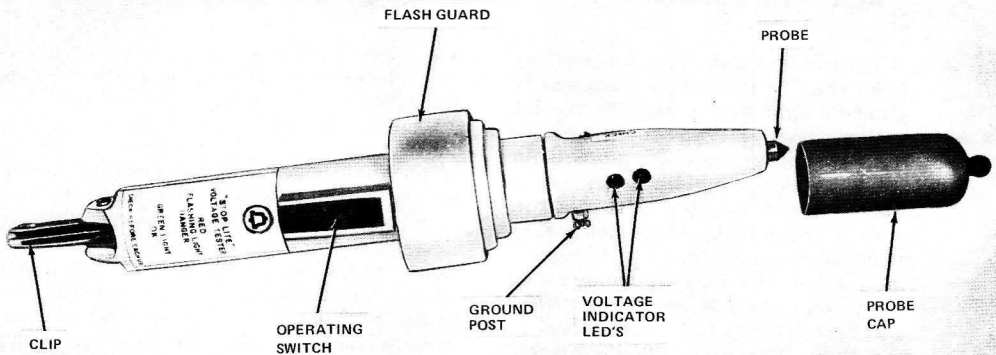
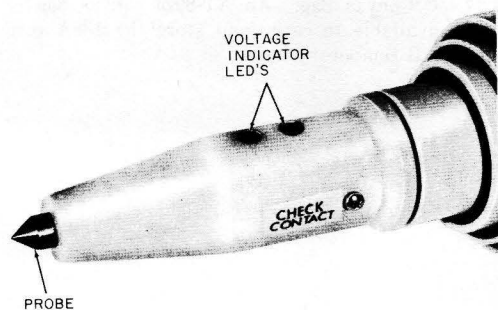

Fig. 1—188A Test Set
Fig. 2—Voltage Indicators
• Change Fig. 1, 2, 5 and 6.
3.01 The 188A test set (Fig. 1) is a yellow plastic two-piece unit that weighs approximately 1 pound. The front housing contains the carbide probe tip and the light emitting diode (LED) voltage indicators (one green and one red), Fig. 2.
3.04 Conductive Probe Cap: The conductive probe cap (Fig. 1) provides protection from the sharp tip of the probe. When placed on the handle (clip end) of the 188A test set, it provides the attachment knob for the 188A ground cord and the contact surface for the hand of the user as required in paragraph 7.01.